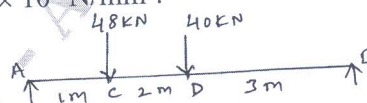

Fig.Q9(b)
- b. Determine the deflection under the loads for beam as shown in the Fig.Q9(b). Take  $I = 1.85 \times 10^6$  mm4 and  $E = 2 \times 10^5$  N/mm2.